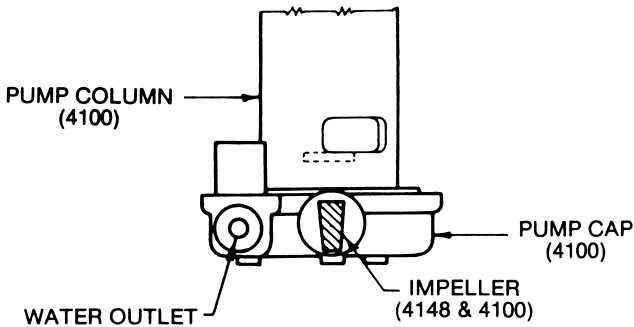

Fig. 1
- c. Position the impeller properly in the center of the pump cap. The impeller must have the black marking up towards the motor. (Fig. 1)
- d. Open water outlet in the pump cap with 5/32" drill bit. (Fig. 1)